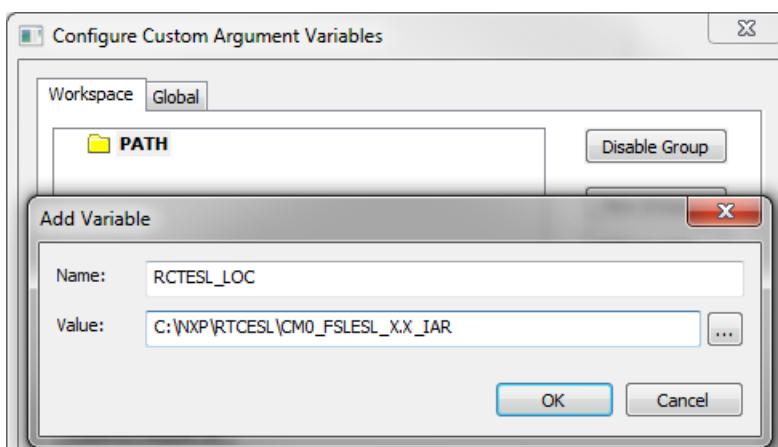

Figure 1-41. New variable
6. In the main dialog, click OK. See Figure 1-41.